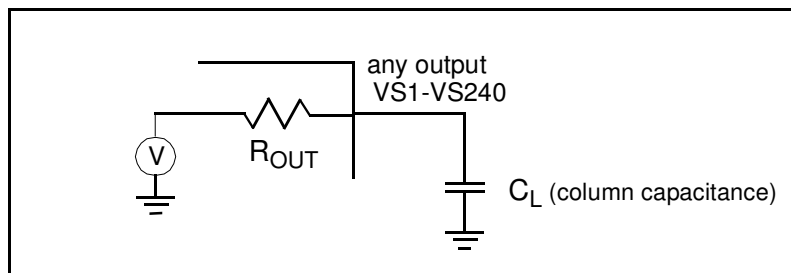

Figure 6-5: R_{OUT} Definition
- 8) Effective output resistance at output with highest resistance when all outputs drive the same code. See Figure 6-5.
25	Replace Figure 6-5 to show definition of R _{OUT} .